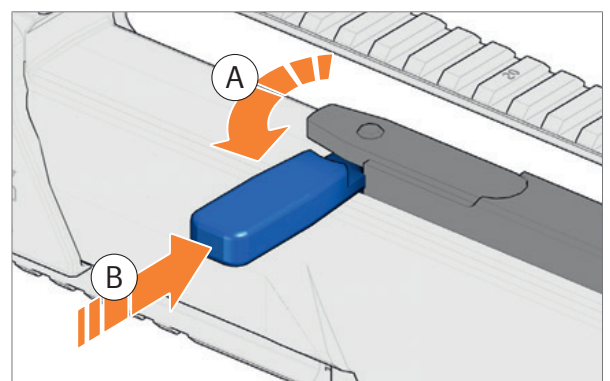

Fig. 18: Use forward assist
1. Fold charging handle over and push it in. The charging handle engages in the bolt group (Fig. 18).
2. Push charging handle and bolt group forwards (Fig. 18).